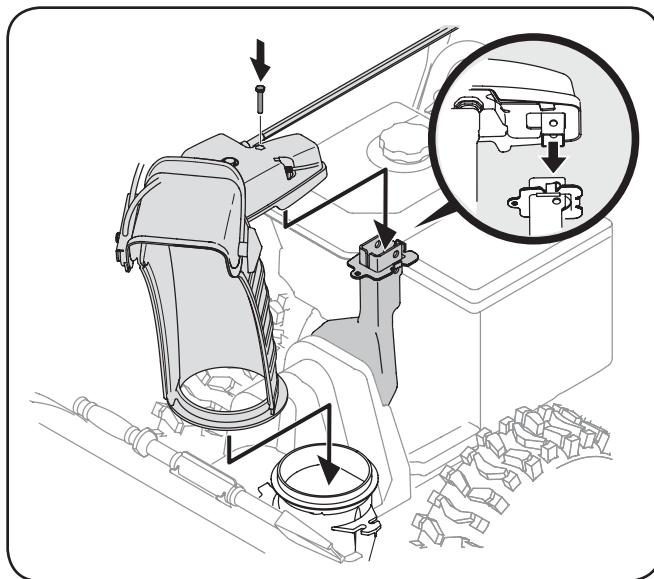

Fig. 3-5
3. Place chute onto chute base with the hex rod positioned under the handle panel. Reinstall the hex bolt previously removed *but do not secure with wing nut at this time*. See Fig. 3-5.